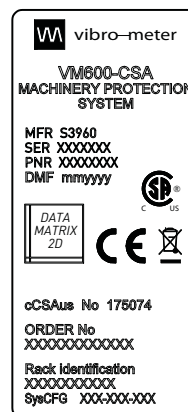

Figure 2-18: Example VM600SYS label (later versions of VM600 system racks)
- A VM600SYS label on a rear panel provides additional information about the VM600 system such as order number and system configuration (SysCFG) number (see Figure 2-18).